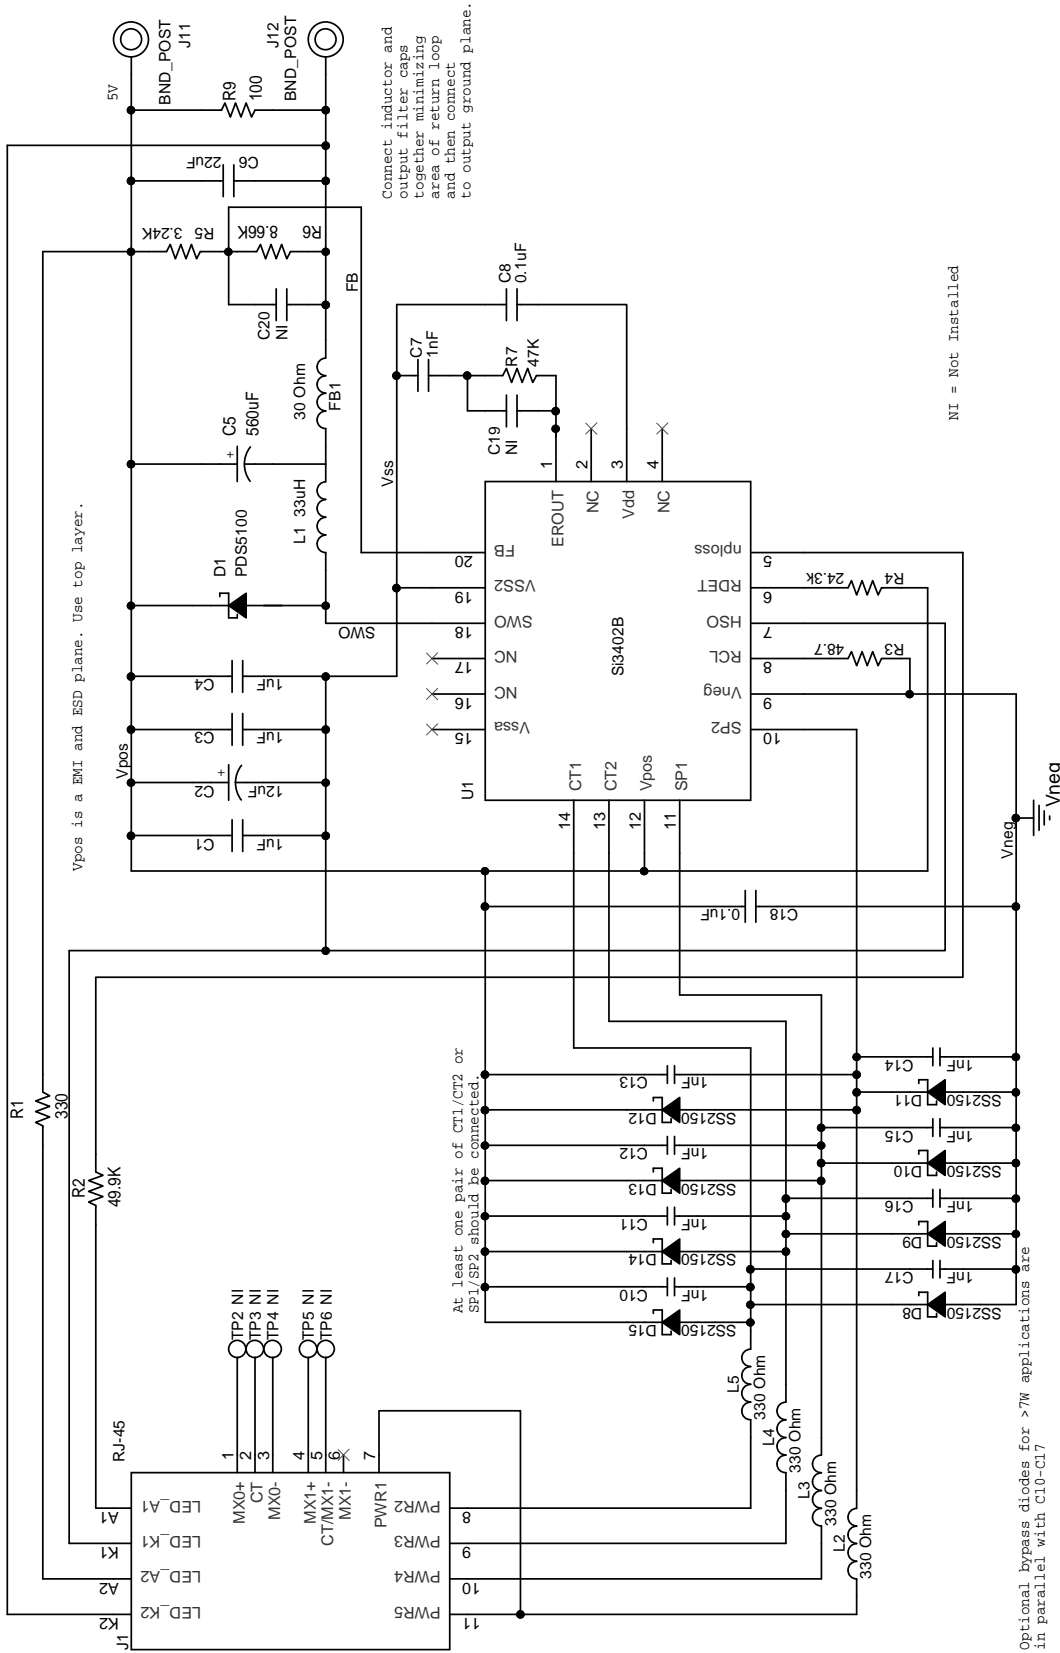

Figure 1. Si3402B Schematic—5 V, Class 3 PD
The Si3402B-EVB board schematics and layout are shown in Figures 1 through 6. The dc output is at connectors J11(+) and J12(-).
- e. Based on your required PD power level, select the appropriate class resistor value by referring to Table 3 of AN956. This sets the Rclass resistor (R3 in Figure 1 on page 2).
- a. ESD caps (C10–C17 in Figure 1) are strongly recommended for designs where system-level ESD (IEC6100-4-2) must provide >15 kV tolerance.